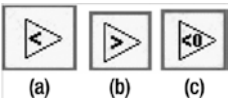

Figure 10-14. (a) *The Less? Function*, (b) *the Greater? Function*, and (c) *the Less than 0? Function*
- **Less?:** This function compares a value *x* to a value *y* and tests whether *x* is less than the *y* value (see Figure 10-14(a)).
- **Greater?:** This function compares a value *x* to a value *y* and tests whether *x* is greater than *y* (see Figure 10-14(b)).
- **Less than 0?:** This function compares a value *x* to zero (see Figure 10-14(c)).